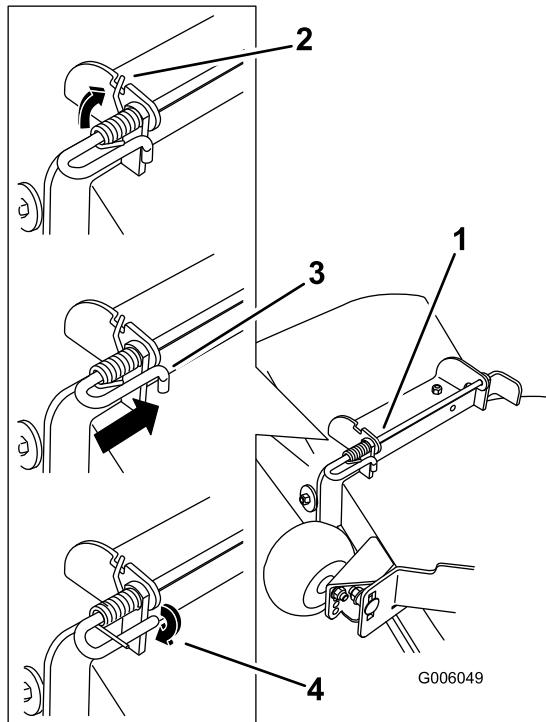

Figure 72
4. Lift the loop end of the spring and place it into the notch on the deflector assembly bracket (Figure 72).
- 5. Secure the rod and spring assembly by twisting it so the short end of the rod can be placed behind the front bracket welded to the deck (Figure 72).